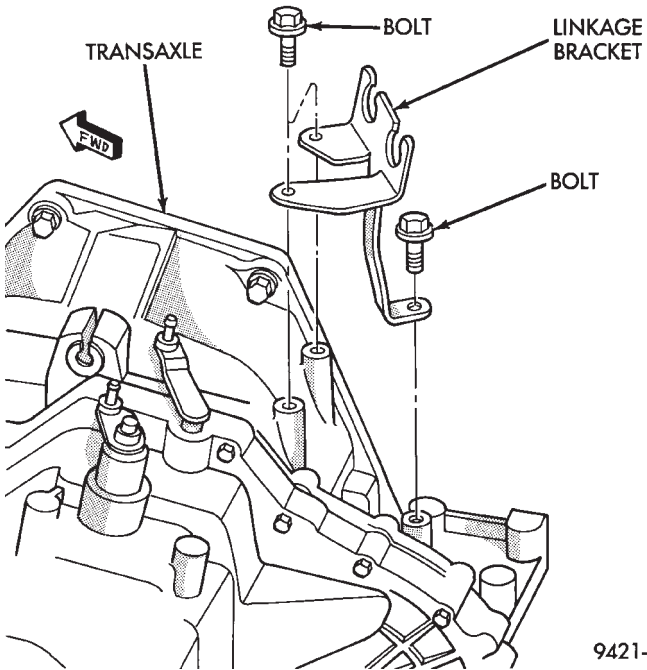

Fig. 21 Linkage Bracket Bolts
- (6) Remove shift cable mounting bracket (Fig. 21).